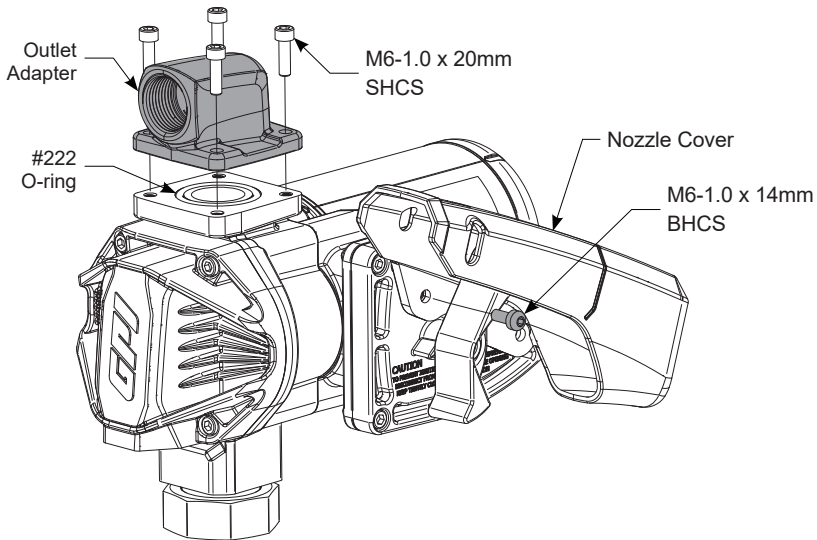

Figure 5
1. Using a 4mm Hex wrench, install nozzle cover using (1) M6-1.0 x 14mm BHCS in lower hole (see Figure 5).
3. Using a 5mm Hex wrench, install the (4) M6-1.0 x 20mm SHCS into the 1 in. NPT outlet adapter in desired direction on outlet port (see Figure 5).